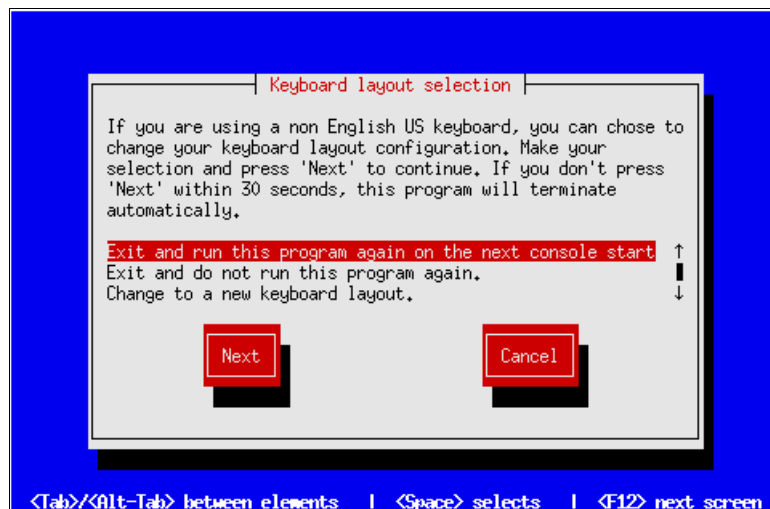

Figure 3-132 Keyboard Layout selection
9. The Keyboard layout selection panel (Figure 3-132) allows for a non English US keyboard to be selected. You must make a selection within 30 seconds and select **Next** or **Cancel**. The panel times out after 30 seconds.